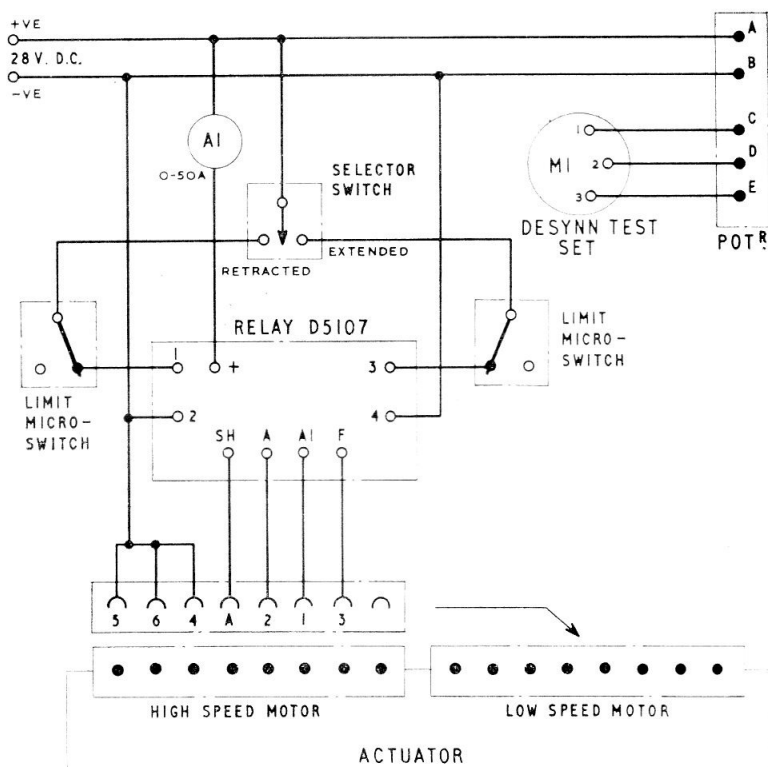

Fig. 6. Test circuit diagram
32. The clutch should be adjusted so that the current consumption is within the limits of 25A and 35A. Reference should be made to fig 6 for dimensions of the C spanners which are required to fit the clutch body and the clutch adjusting locknut. The procedure for clutch adjustment is as follows.